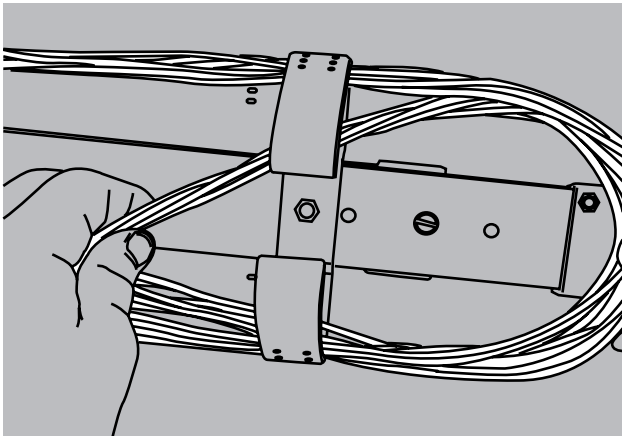

FIGURE 21
21. If necessary buffer tube crossovers can be made within the bracketed organizational system. (Figure 21)